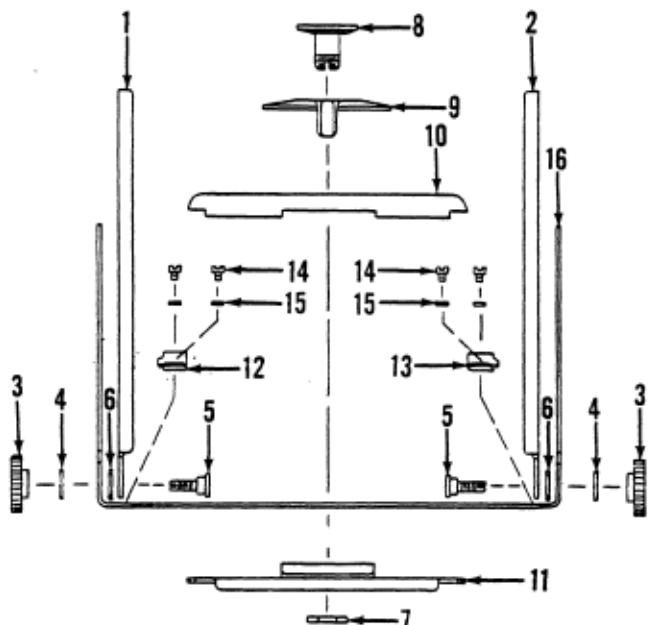

Figure 9A. FRONT STANDARD ASSEMBLY
- Remove finder complete (16) from base frame of bellows complete (17).
- Assemble finder complete (16) in base frame of bellows complete (17).
- Assemble left stile assembly (13), using two machine screws (15) and two machine nuts (14).
- Assemble right stile assembly (10), using two machine screws (12) and two machine nuts (11).
- Assemble two lower locks (9) and two upper locks (8).
- Assemble shutter trip crank (7), solenoid assembly (6) and front frame assembly (5).
- Apply paraffin to two sliding surfaces of two front frame locking studs (4) and assemble studs in opening between bellows base frame and front frame assembly.
- Spread two sides of front standard assembly (18) and assemble the above sub assembly, using flat washer (3) between front standard and supports on two sides.
- Assemble two flat washers (2) and two locking knobs (1). Stake ends of locking studs (4).
U. 1. FRONT STANDARD ASSEMBLY - DISASSEMBLY AND REASSEMBLY (Figure 9A)
- Remove right support (1) and left support (2) by removing locking knobs (3), flat washers (4),